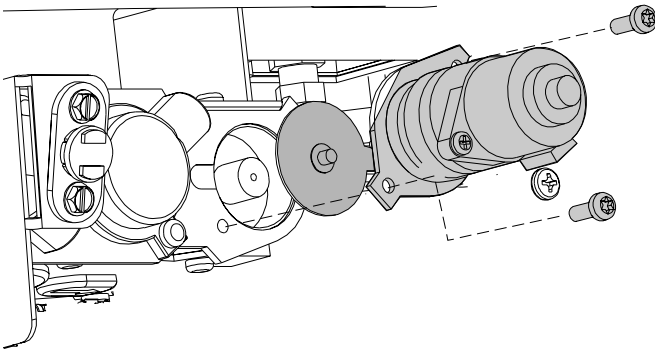

Figure 7.7.
**10. Replace the Valve Regulator.** Fig. 7.7. Using a Torx T-20 screwdriver, remove the screws from the front of the original regulator. Remove the regulator components and replace them with the one from the conversion kit.